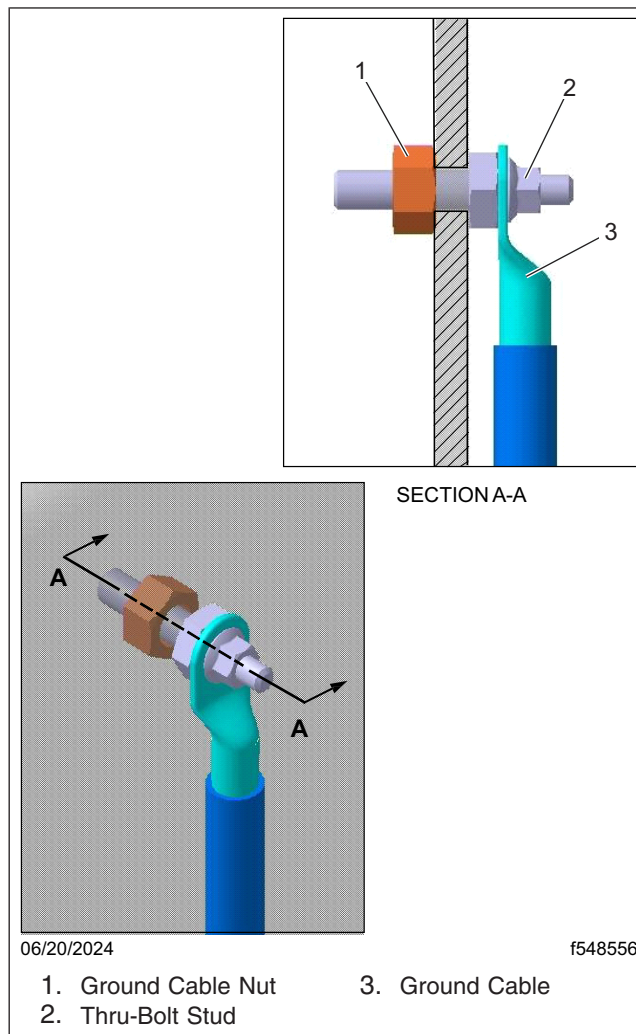

Fig. 5, Thru-Bolt Stud (section view)
16. Install the ground bolt and nut. Tighten the fasteners 60 to 65 lbf-ft (81 to 88 N·m). See **Fig. 5**.
18. Install the ground bolt nut and tighten 60 to 65 lbf-ft (81 to 88 N·m). See **Fig. 5**.
20. Connect the ground cable to the ground bolt, and tighten 24 to 29 lbf-ft (33 to 39 N·m). See **Fig. 5**.